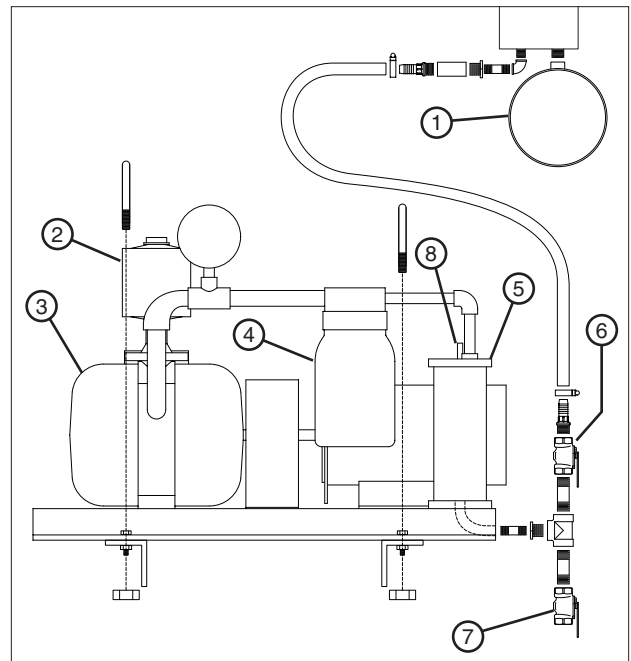

Figure 69-2 1. Suction Inlet Pipe 5. Water Trap
2. Depress the manual plunger on top of the water trap to allow water to draw-down. See figure 69-2.
3. If necessary, open the drain cock valve for full drainage. See figure 69-2.